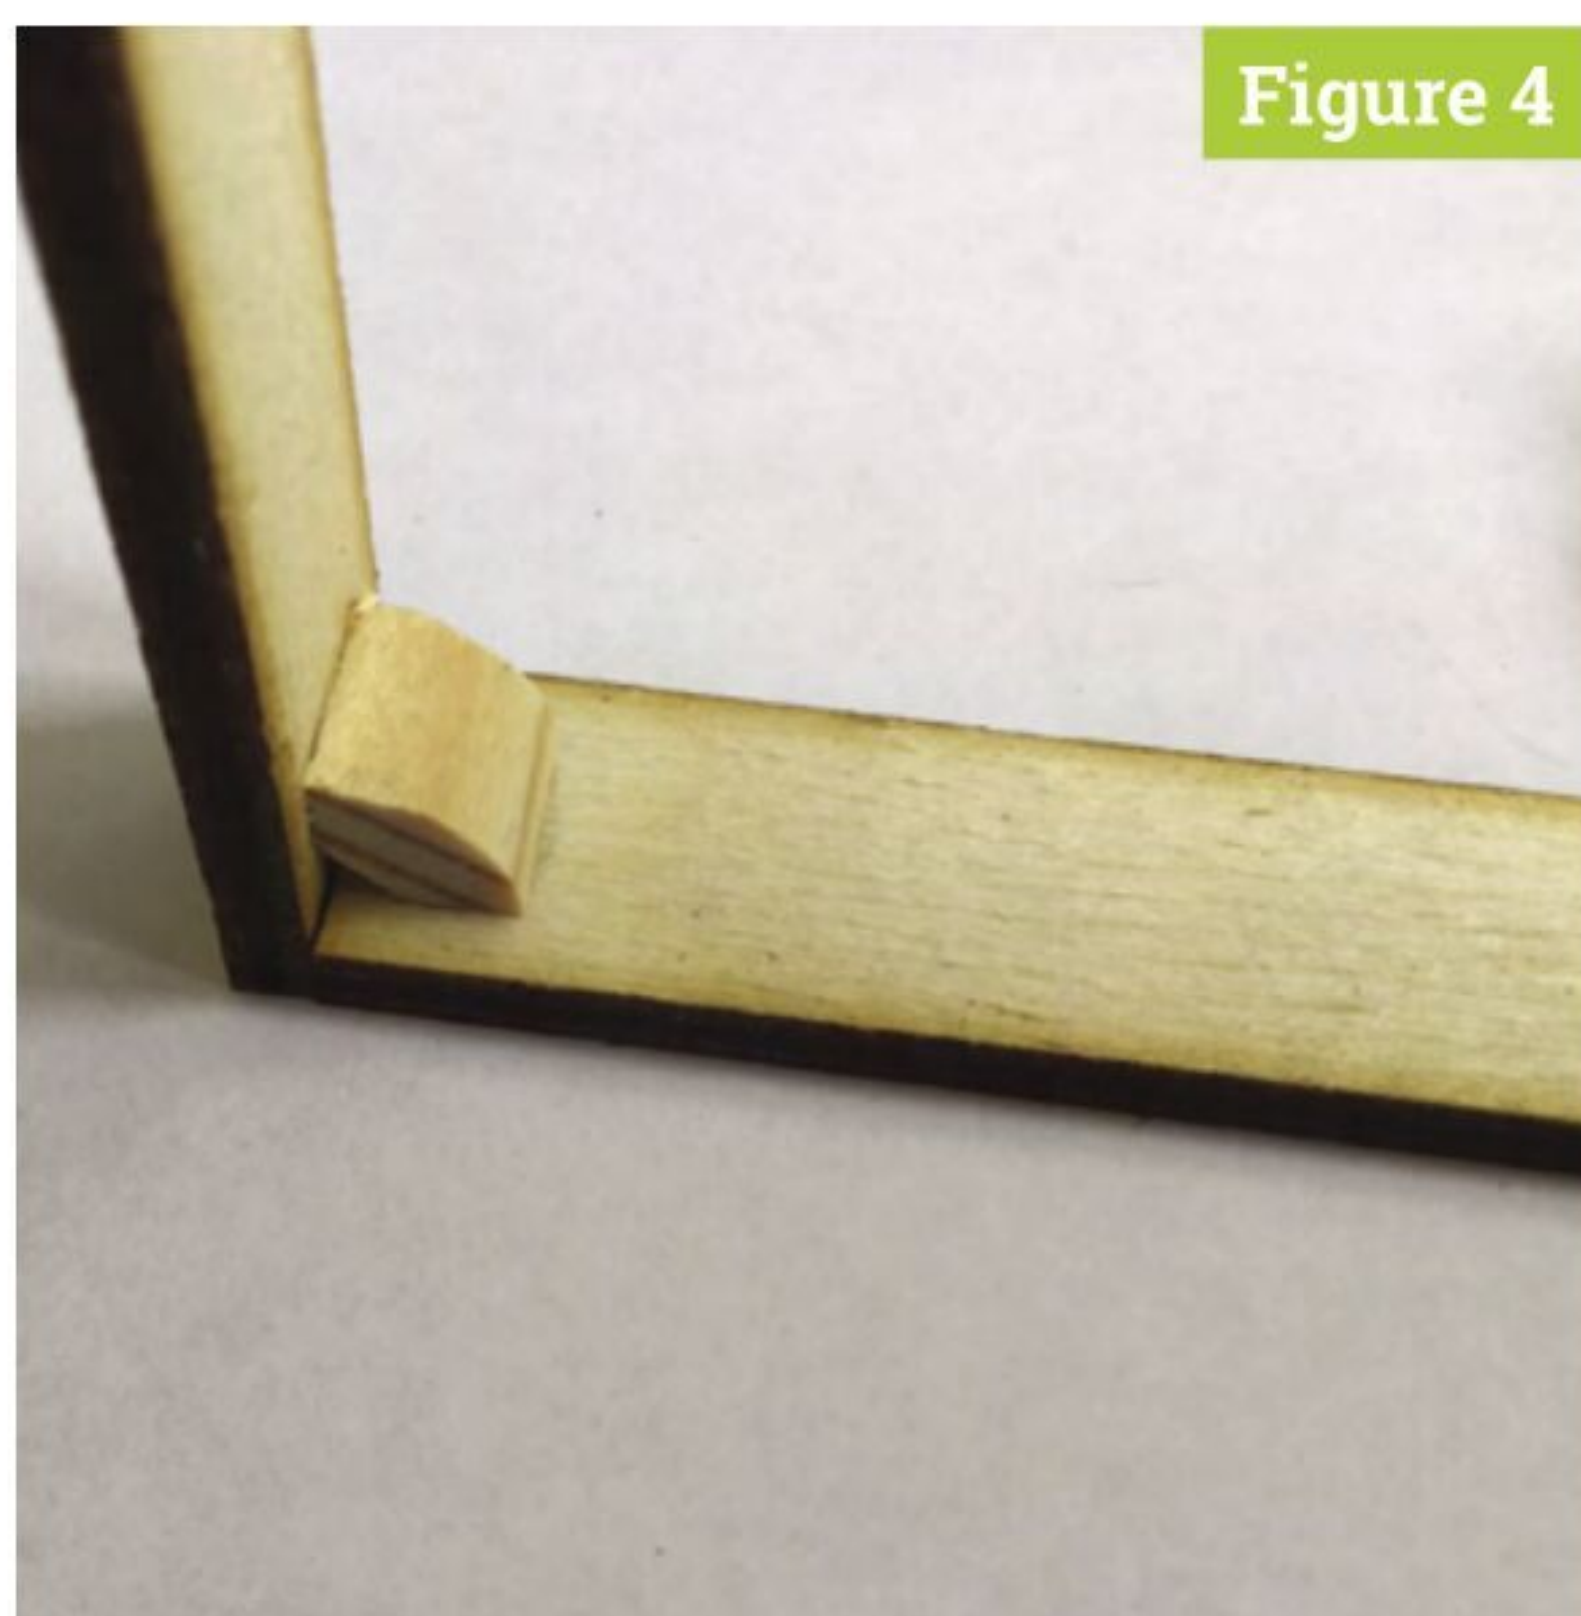

Figure 4
Figure 3 shows the construction of the two-layer box. Note how the side with only a 1.5 mm tab sticking out goes to the middle layer of the box, and the 3 mm tabs on the other side go to the top and the base. We assembled and glued the sides into two rings, and then we reinforced each corner with a small length of half round dowel fixed with superglue. Then we plugged up the bottom end with Blu Tack (tack putty) and dribbled some Gorilla clear glue down the joint for added rigidity. See **Figure 4**.
► Figure 4 Reinforcing the corners of the two rings formed from the sides